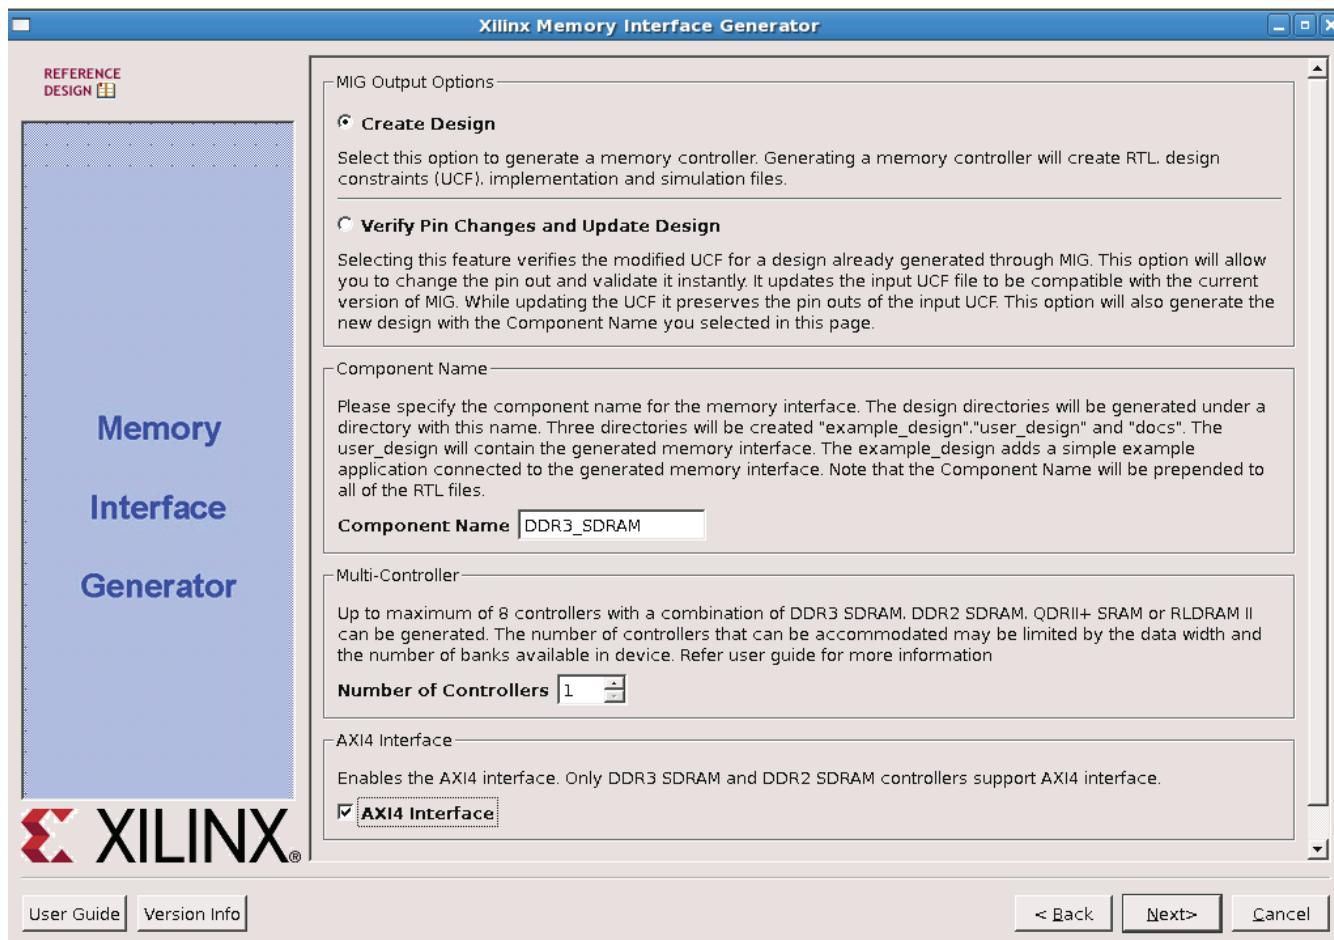

Figure 30: MIG Output Options
17. Select **Create Design** and specify the Component Name as **DDR3_SDRAM**. Enable the AXI Interface by checking **AXI4 Interface** and click **Next** (Figure 30).